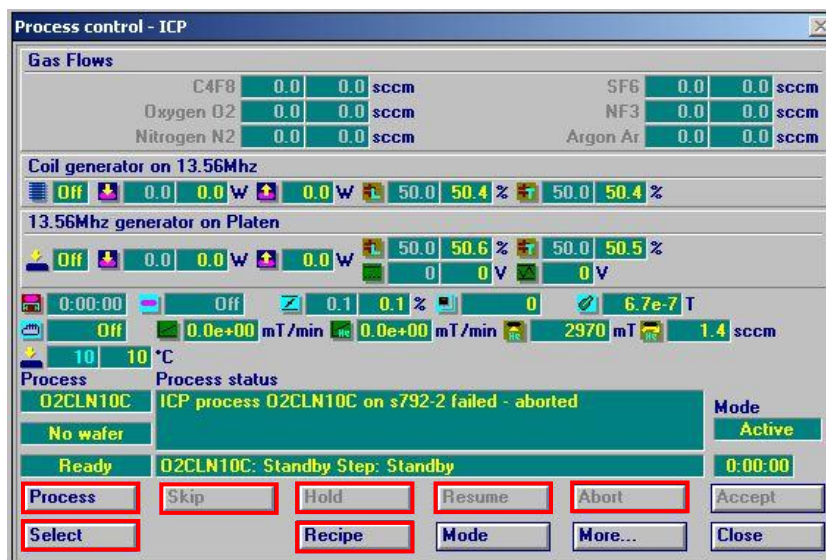

Fig.5: *Process control* window in stand-by mode
4.2.1 Press the **Select** button in the **Process Control** window (Fig.5) and select the right recipe from the pop-up menu.
4.3.1 Start the process by pressing **Process** (Fig.5).
Fig.7: Detail of the left upper-corner of the expanded **Process Control** window, when process is started in switching mode (left), in ramping mode (middle), and in switching+ramping mode (right). If switching and ramping are absent, the lay-out looks like Fig.5.